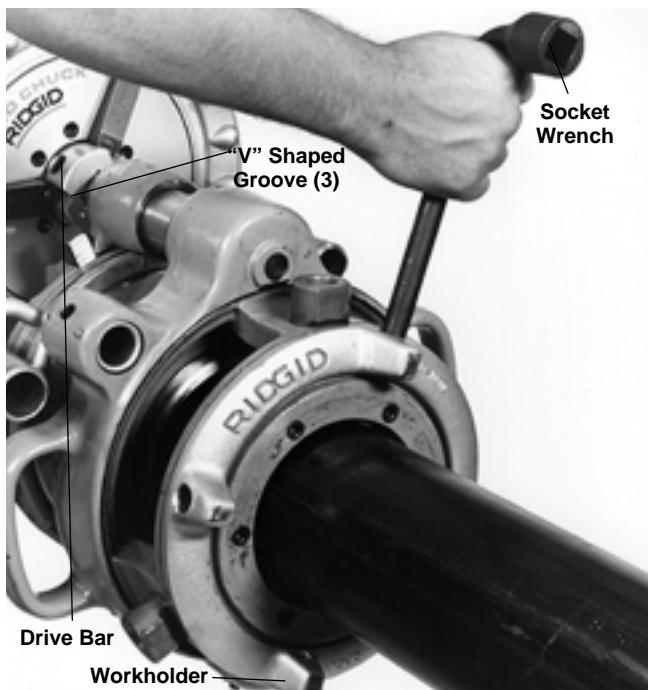

Figure 17 – Tightening Workholder on No. 141 Geared Threader (No. 161 Threader Similar)
**IMPORTANT:** Allow approximately  $\frac{3}{4}$ " of grooves exposed in front of chuck jaws (Figure 17) to allow space for oiling.
7. Insert pipe in threader and center end of pipe in throat of dies. Tighten workholder with socket wrench (Figure 17).
8. **141 and 161** – Loosen jaw clamp screw (*Figure 17*), turn workholder to **OPEN** position and remove pipe.